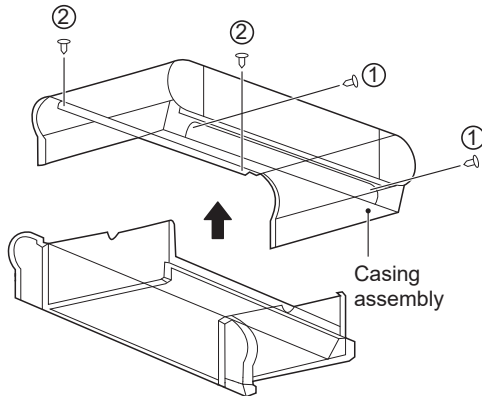

Figure 4-4 Removal of casing
- b) As shown in Figure 4-4, remove screws ①*2 and ②*2 and then the casing.